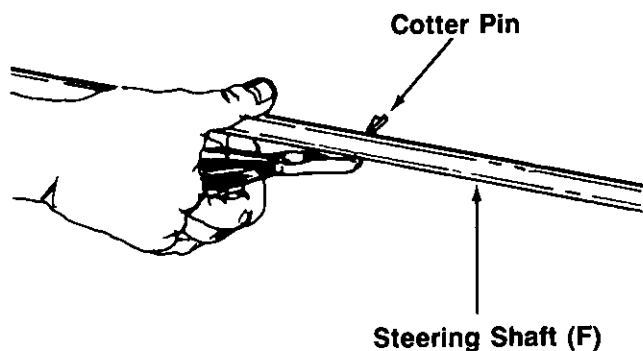

FIGURE 2.—Model 13504 Only
1. Insert the **cotter pin** into the hole on **steering shaft (F)**. Secure in place by bending the ends of the cotter pin in opposite directions. See figure 2.